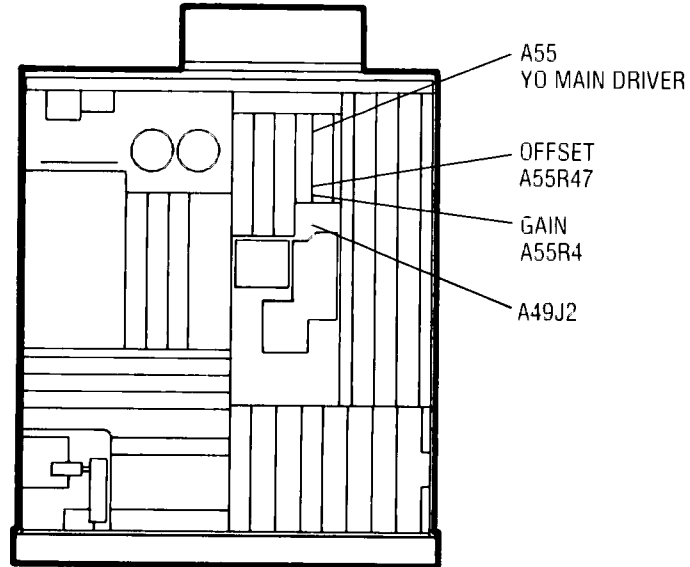

Figure 5-16. YO Main Driver A55 Adjustments Location
4. Adjust A55R47 (OFFSET, Figure 5-16) for an indication of 2.3 GHz \pm 1 MHz on the Frequency Counter.
6. Adjust A55R4 (GAIN, Figure 5-16) for an indication of 6.999 GHz \pm 1 MHz on the Frequency Counter.